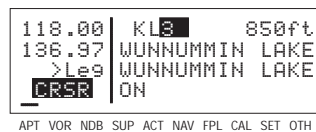

Figure 4-71
4. Move the cursor one place to the right and pull the right inner knob out. The last two characters of the waypoint identifier will be in reverse video (figure 4-71).